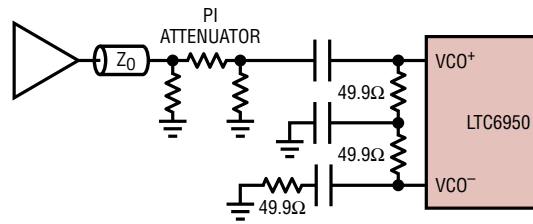

**Figure 38. Simplified VCO Input Schematic**
The LTC6950's VCO input buffer provides a flexible interface to either differential or single-ended frequency sources and is similar in operation to the reference input. The maximum input signal frequency is 1.4GHz. The VCO input signal swing must be less than 1.5VP-P to avoid turning on the input buffer's protection diodes (see Figure 38). If the input signal is too large, it should be attenuated. Any VCO signal source may also be directly coupled (DC), as long as its common mode voltage is approximately the self-bias voltage of the input buffer (see Figure 38). If the common mode voltage is too high or low, the signal must be level shifted or AC-coupled.